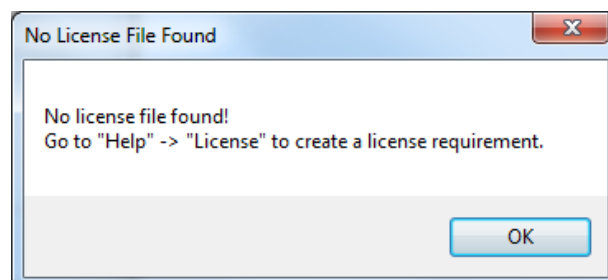

Figure 3.10. No License File Found Dialog
5. A dialog pops up as shown in Figure 3.10. Click OK.
6. No License File Found dialog pops up as shown in Figure 3.10. Click OK. After that, the Help → License menu item is enabled (Figure 3.15).